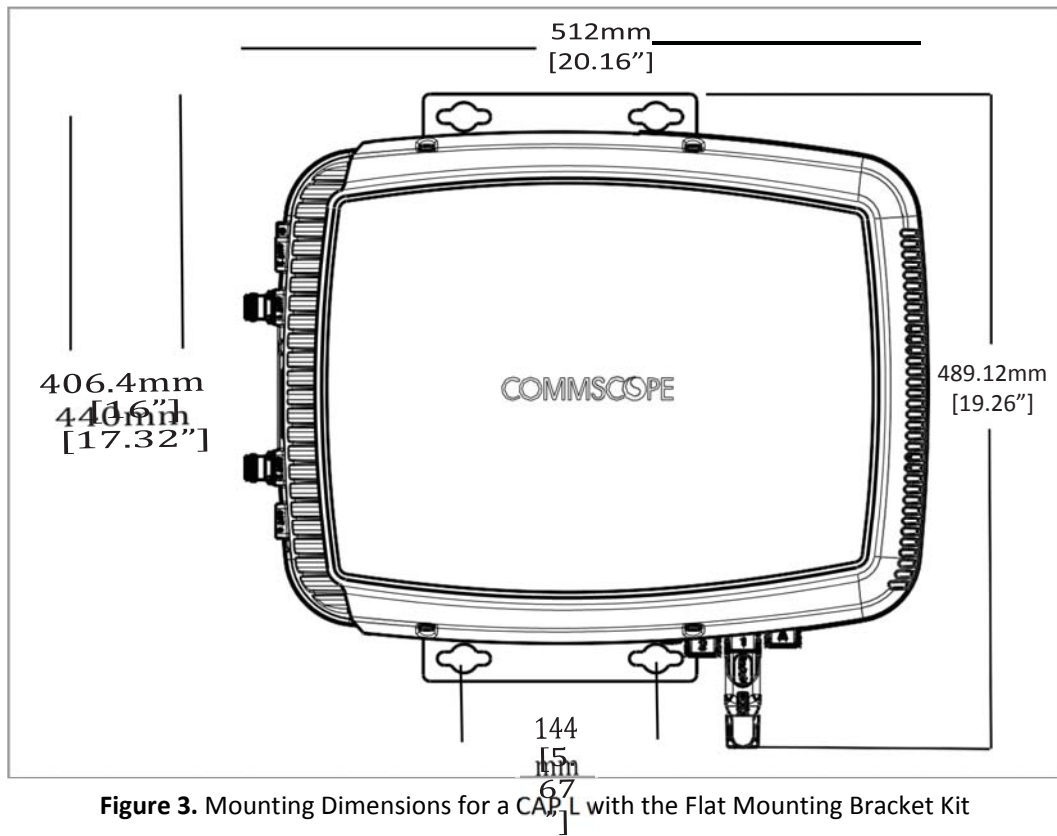
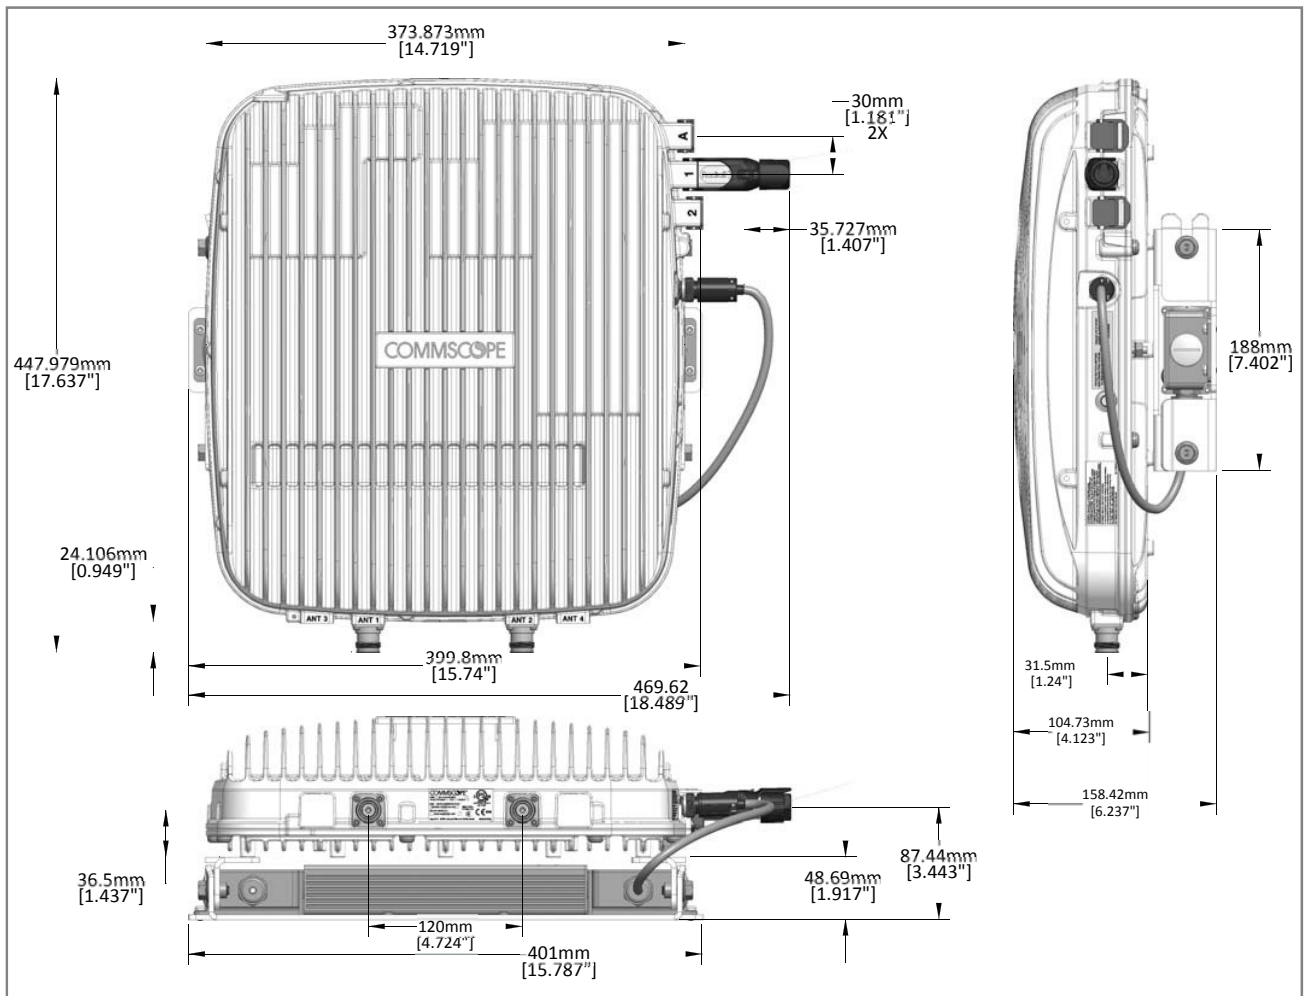

Figure 3. Mounting Dimensions for a CAP L with the Flat Mounting Bracket Kit
Figure 5. Mounting Dimensions for a CAP L Mounted with the AC/DC Power Supply Kit
- Use the dimensions shown in Figure 3 on page 18 through Figure 5 on page 19.